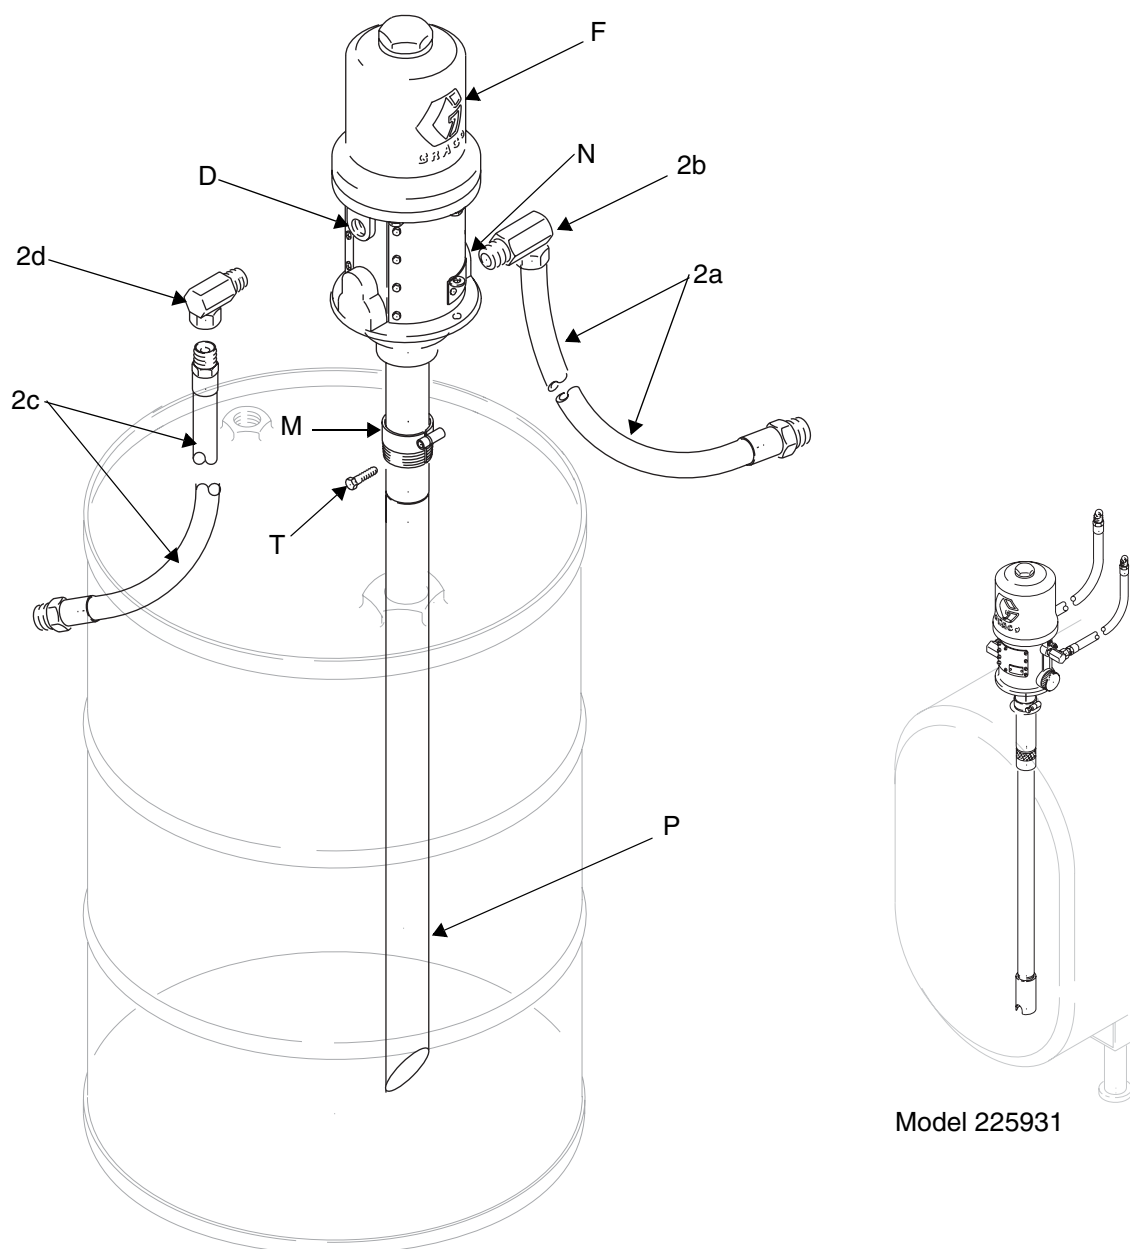

FIG. 7
Letters used to identify components in FIG. 1 are referred to in the package installation drawings, FIG. 3 through FIG. 7. Additional letter references are used in installation drawings as necessary.
1. Screw the bung adapter (M) into the bung hole of the drum. See FIG. 7.
2. For 246907 cut the extension tube (P) at a 45° angle to a length appropriate for the size of the drum. When installed, the bottom of the angle should be about 1" (25 mm) from the bottom of the drum. For 224640 and 225931 the down tube is sized for the container.
3. Tighten the bung adapter screw (T) to hold the pump in position.
4. Apply thread sealant to the male threads of the 3/8 npt swivel union (2d). Screw the union into the pump air inlet (D).
5. Apply thread sealant to the male threads of the 1/2 npt swivel union (2b). Screw the union into the pump fluid outlet (N).